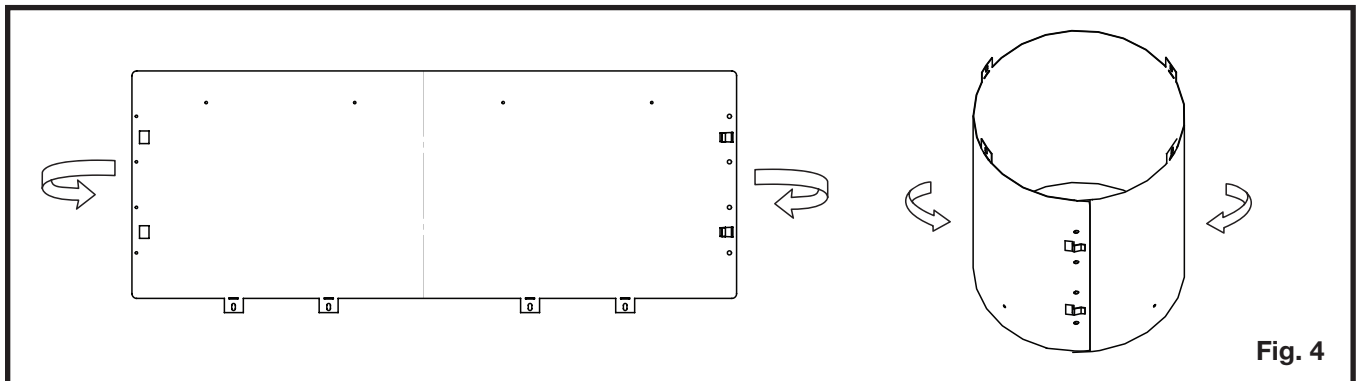

Fig. 4
4. Roll the vent sleeve as shown and ensure to clip the ends together (**Figure 4**).
4. Unscrew the fasteners as shown **(Figure 4).** **DO NOT DISCARD FASTENERS**